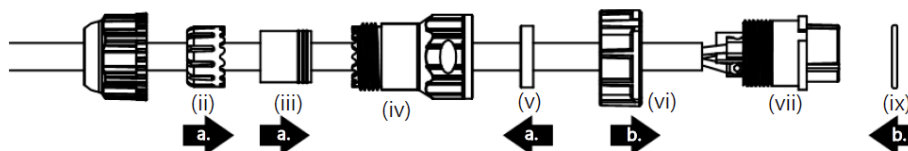

Figure 50: Steps 3 and 4
3. Fit the gasket (v), sealing (iii), and clip (ii) onto the sealing body (iv) (Figure 50).
4. Fit the lock (vi) and o-ring (ix) onto the housing (vii) (Figure 50).